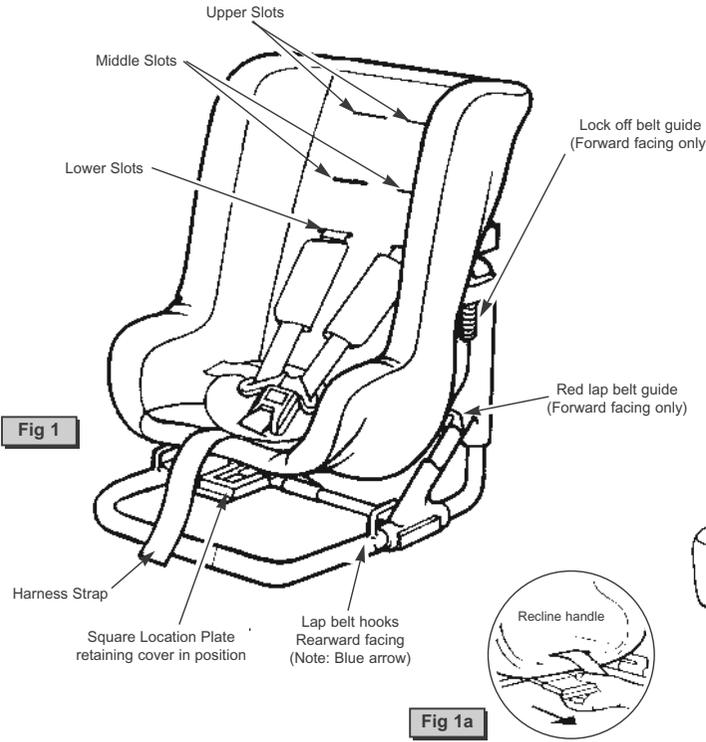

Fig 1
- Release retaining elastic loops at the bottom rear of plastic seat shell. Now, peel cover from edge of seat and square location plate, situated by the harness adjuster (Fig 1).